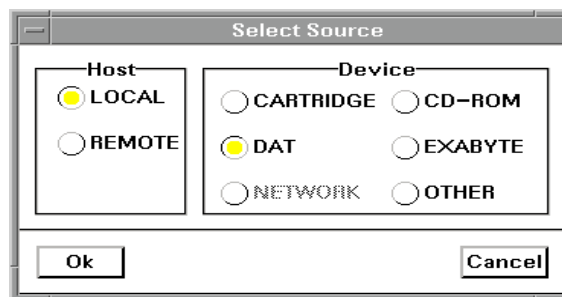

Figure 2. Select Source Window
STEP 5: Check the installation device. The Source panel displays the name of the host machine and the name of the installation device. The device selection defaults to the DAT drive on the local machine. If you want to select the REMOTE option to install from a remote machine, click on the Select Source button in the Source panel to open the Select Source window (Figure 2); then make necessary changes and click the Ok button to return to the Installer window.